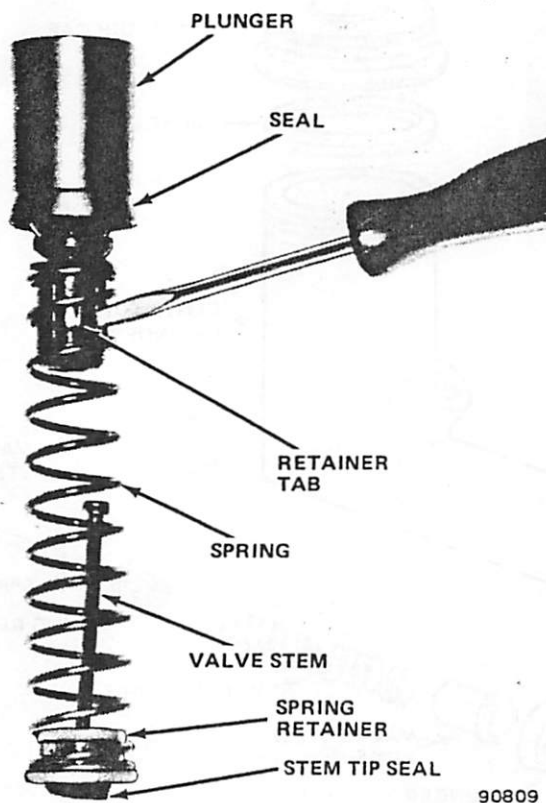

Fig. 2A-10 Removing Valve Spring and Stem from Plunger
- (1) Clean cylinder exterior thoroughly.
- (2) Remove boot from cylinder.
- (3) Remove cylinder push rod, boot, plunger and spring as assembly (fig. 2A-11).
- (4) Remove spring and seal from plunger.
- (5) Remove snap ring that retains push rod in plunger and remove push rod and boot.
- (6) Remove boot from push rod.
- (7) Clean parts with brake fluid.